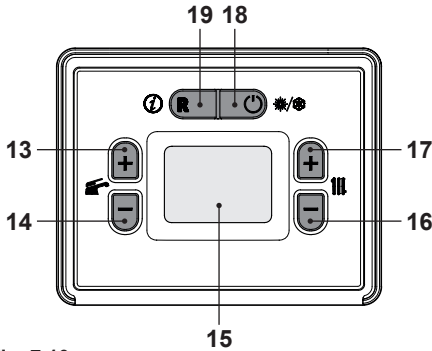

Fig. 7.10
- Press and hold the 18 key until both  and  symbols appear on the display Fig. 7.10.
- Switch off the boiler by pressing the 18 (Fig. 7.10) key for 5 seconds until the  symbol appears on the LCD display (Fig. 7.9).
- Press the 18 key for 5 seconds until both  and  symbols appear on the display Fig. 7.10.
Press the reset key on the boiler control panel 19 (Fig. 7.10) to reset its functioning.